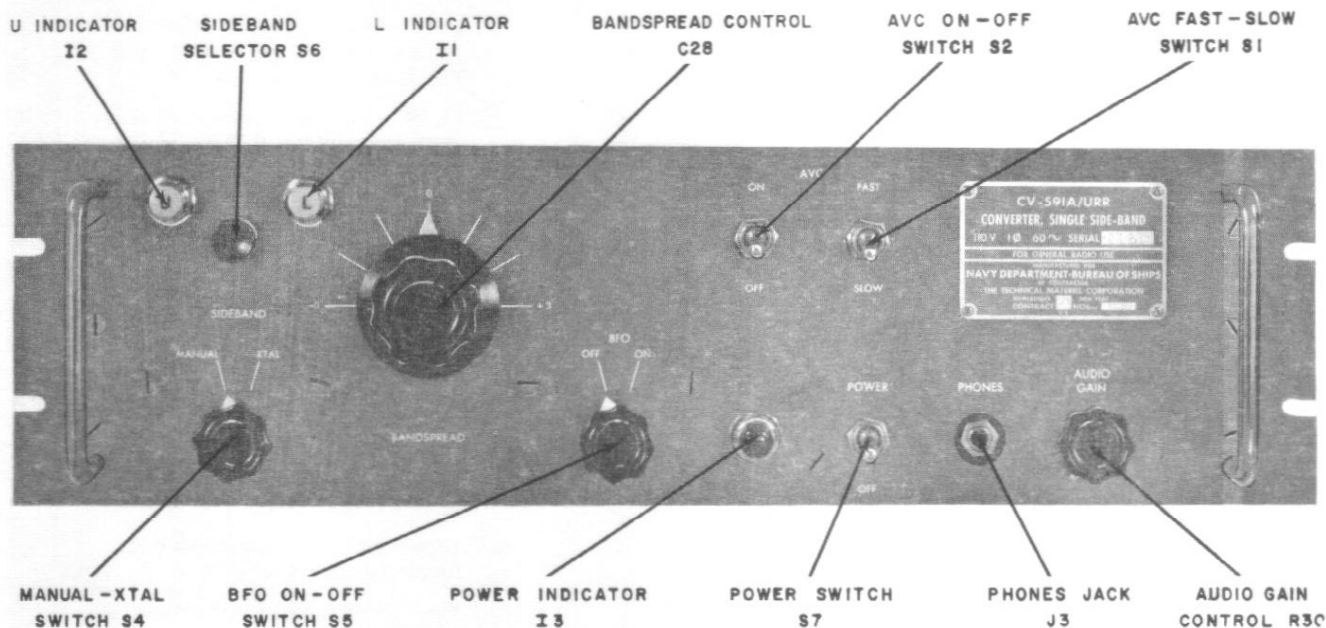

Figure 2-1. Single Sideband Converter CV-591A/URR, Controls and Indicators
2.1.3 Figure 2-1 shows physical location and name of controls and indicators on the front panel of the converter. Table 2-1 lists names of controls and indicators, and their positions and functions.